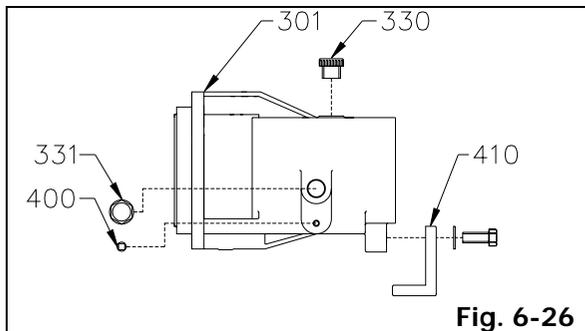

Fig. 6-26
9. Remove oil cover (330), oil gauge (331), and bearing bracket/frame drain plug (400) from bearing bracket (301) or bearing frame (300).
10. Remove support foot (410) from bearing bracket (301) or bearing frame (300) (Fig. 6-26 and 6-27).